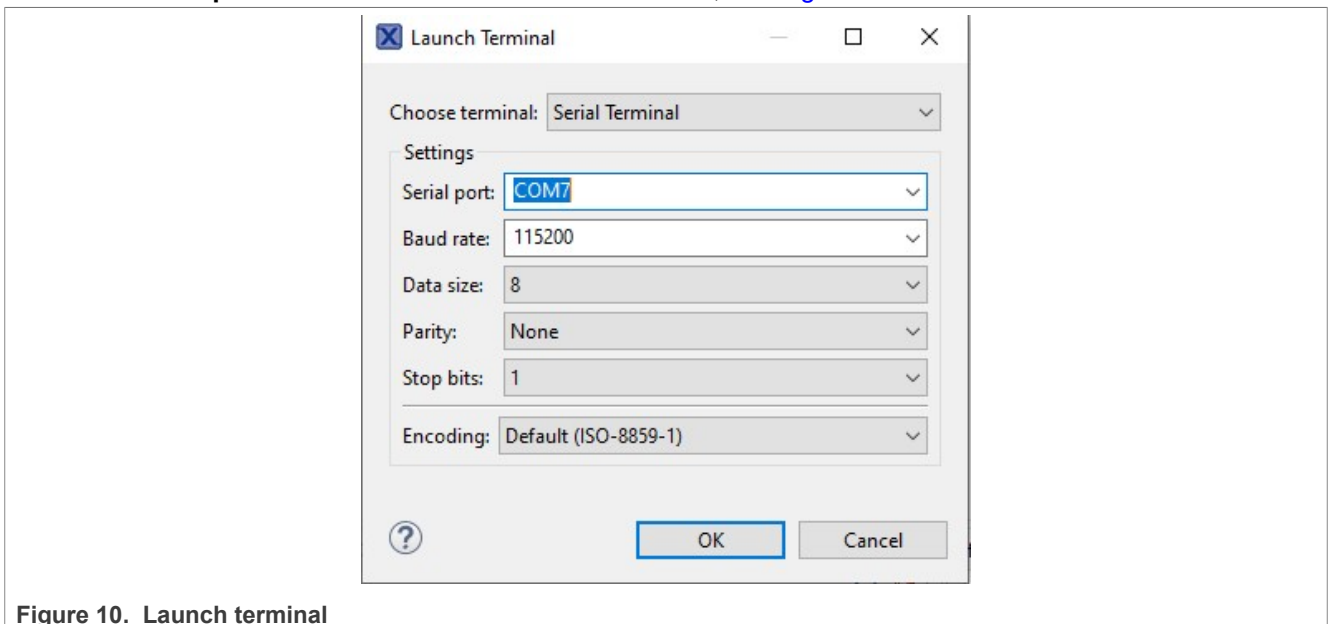

Figure 10. Launch terminal
4. Select **Serial port** associated with the connected device, see Figure 10.
5. Select the following settings, see Figure 10.